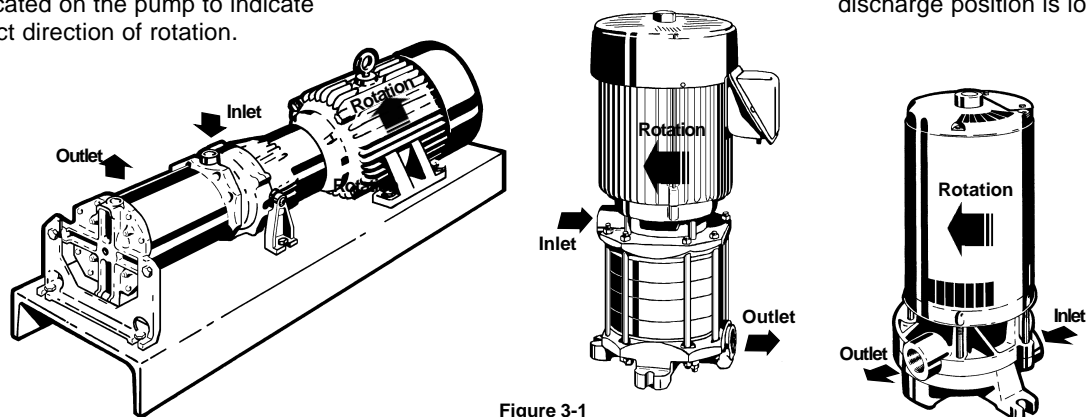

Figure 3-1
The standard direction of rotation for the pump is right-handed, or clockwise when looking at the motor end of the pump. A rotation arrow, refer to Figure 3-1, is located on the pump to indicate the correct direction of rotation.
**3B Inlet and Outlet Locations (Refer to Figure 3-1)**